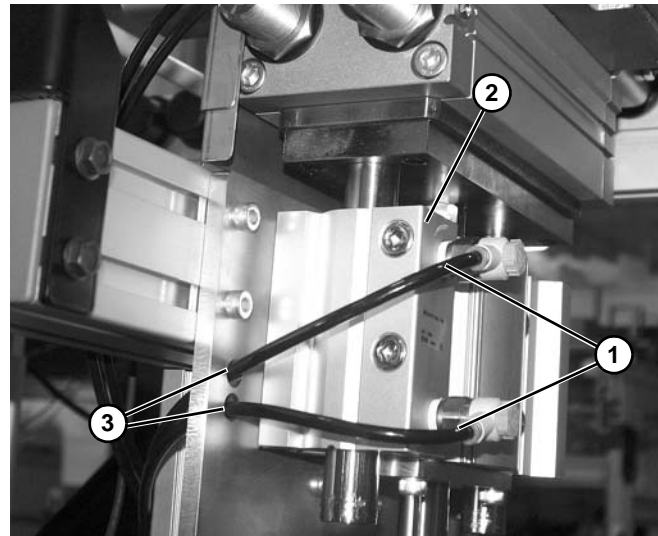

Figure 119
To aid in reinstalling, be sure to mark all of the hoses and there locations, including routing through access holes (Figure 119, item 3).
3. Disconnect upper and lower hoses (Figure 119, item 1) from fittings on lift cylinder (Figure 119, item 2).